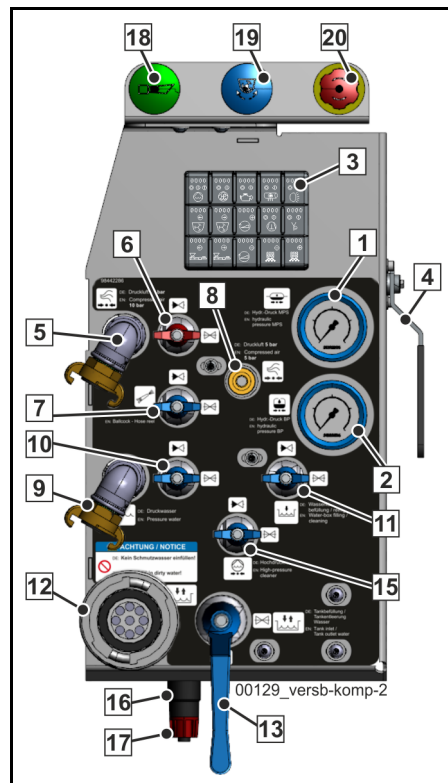

Fig. 430 Supply control
- Opening the ball valve (15) (**Fig. 430**) directs water from your machine’s water case to the high-pressure pump.